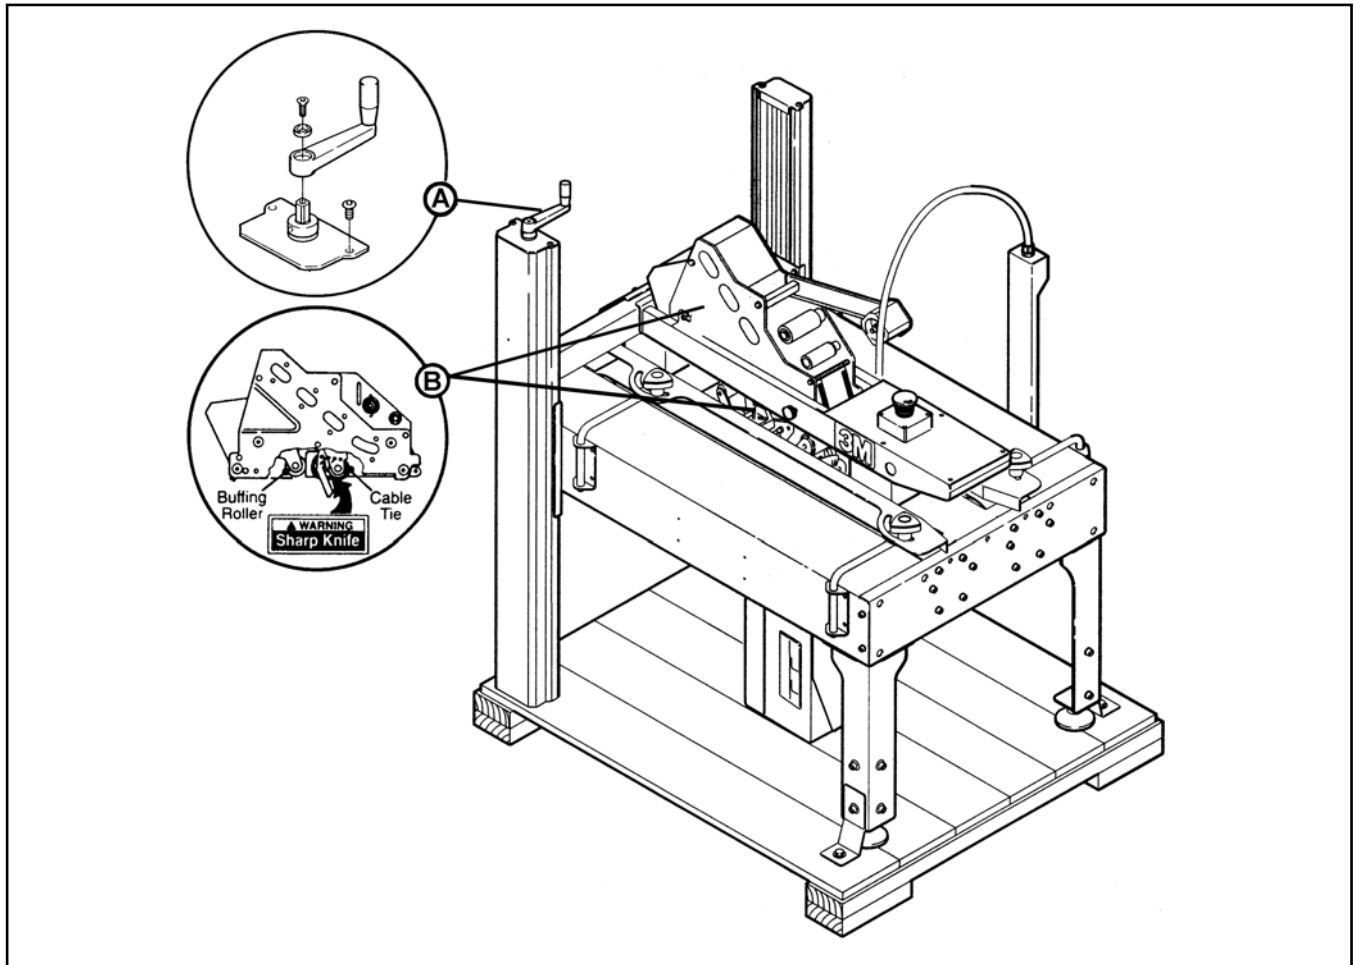

Figure 2-1 – 110a Frame Set-Up
1. Remove handle screw and reposition as shown in figure 2-1. Use the height adjustment handle to raise the upper head.